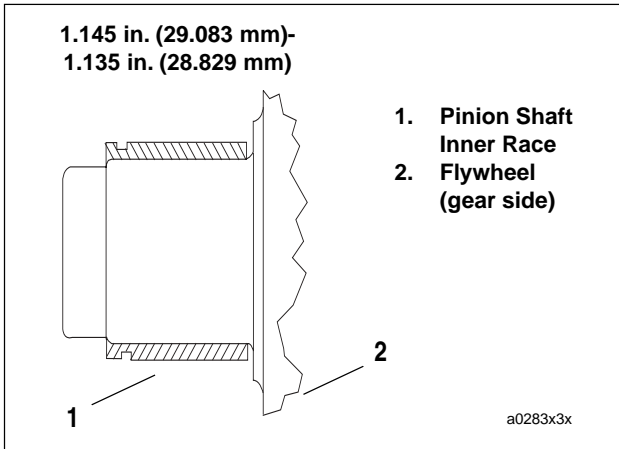

Figure 3-146. Inner Race Location
8. See Figure 3-146. Press **new** inner race on pinion shaft as shown. When the tool bottoms against the flywheel, correct inner race location is automatically established. The **new** inner race must be ground by a competent machinist to OD dimension range for the finished lapped ID of the outer race. See Table 3-31. The finished inner race must meet the specifications in Table 3-34.